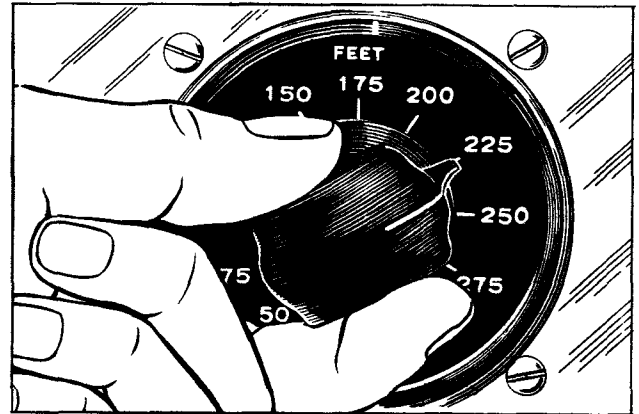

Figure 15—Pre-Set Altitude Adjustment of Altitude Limit Switch
(2) Set the Altitude Limit Switch for the desired pre-set altitude (altitude of reference for limit indicator and/or automatic pilot operation). See Figure 15.
(3) If the altimeter installation includes connections to an automatic pilot system, MAKE SURE THAT THE CHANGE-OVER CONTROL IS SET FOR "MANUAL" OPERATION. See paragraph 2-a(4), this section.